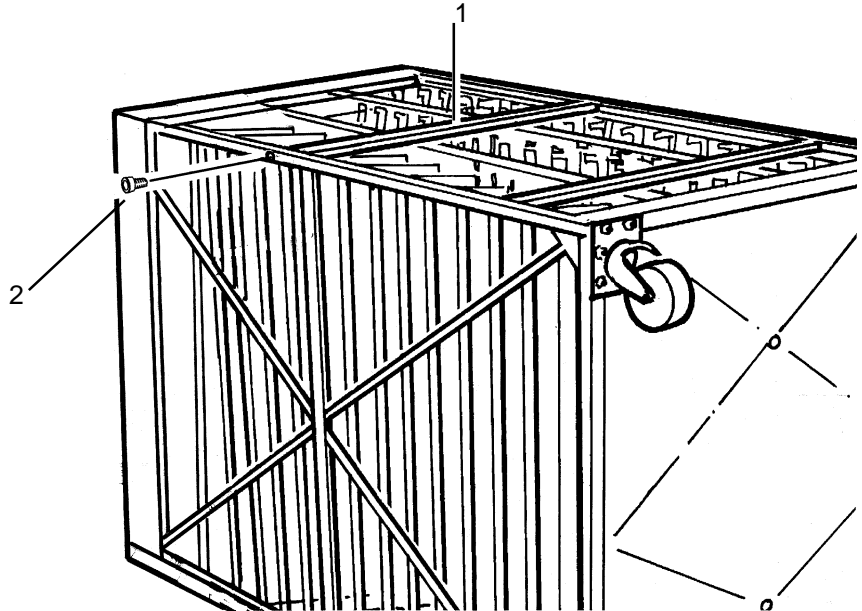

Figure 22
**Step 16:** Insert the front rail spacers (Item 1) and fasten loosely with Item 2 (Figure 22).